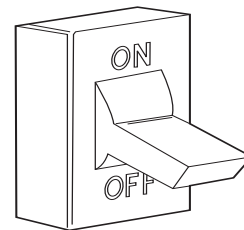

Fig. 13 – Turn Off Electrical Supply
1. Turn off the electrical supply to the furnace (see Fig. 13).